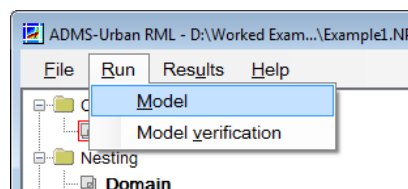

Figure 7.5 The ADMS-Urban RML Run menu.
- Step 17** To carry out the nesting run, select **Run, Model** from the menus, as shown in Figure 7.5.